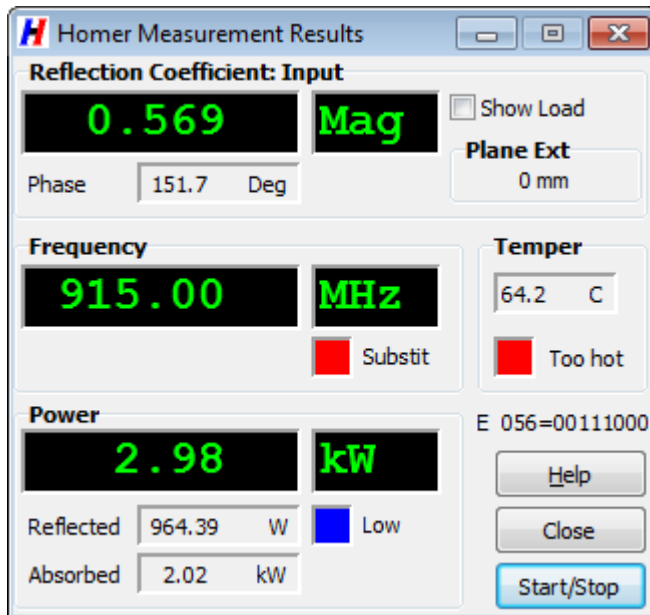

Figure 19. Full-size (Maxi) Results window.
Full-size (Maxi) Results window (Figure 19) displays measured data numerically. Basic results and errors or warnings can be viewed from longer distance. The data are grouped in several boxes.
*Frequency* group displays measured frequency. If the frequency-measurement counter is disabled or the number provided by the counter is obviously incorrect, a substitute frequency is displayed instead and the associated LED lamp turns from green to red (as shown in Figure 19).
Homer Error Byte (HER) is displayed as **E** in decimal and binary format. Based on breakdown of HER, the three rectangular “LED lamps” indicate by their color and adjacent text whether the measurement conditions are normal (green) or whether an error or warning condition has occurred. Example of one error (temperature too high) and two warnings (Substitute Frequency and Low Signal) is shown in Figure 19.